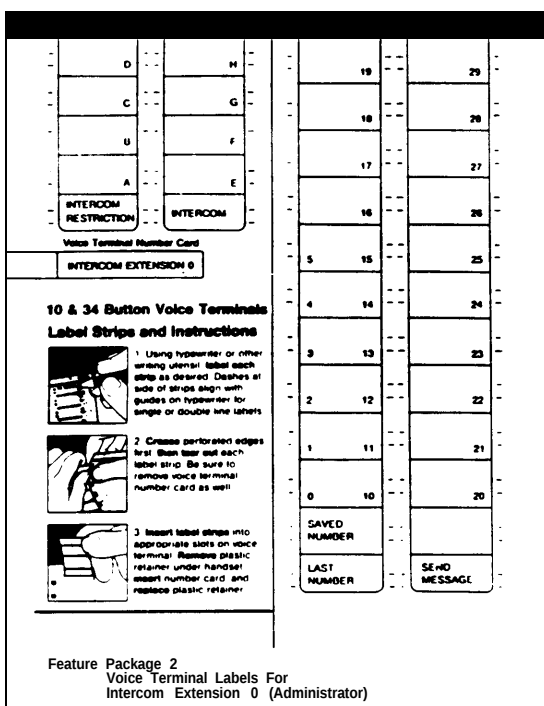

Figure 5. Feature Package 2 Voice Terminal Labels (One-Fourth Actual Size)
- 2 - Feature Package 2 — Voice Terminal Labels for Intercom Extension 0 (Administrator) (Figure 5)